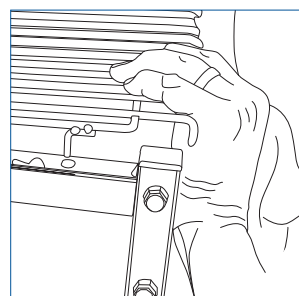

Fig. 6
2. Attach the top shelf to the top of the frame. There are pegs underneath the top shelf that sit in side slots atop the frame (Fig. 6)